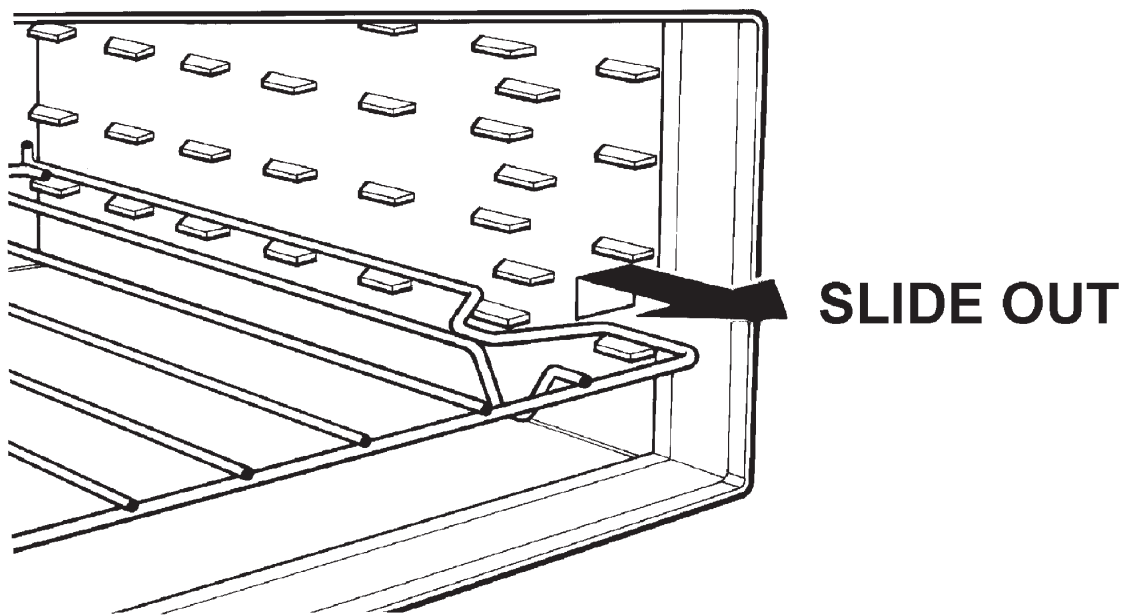

Fig. 14
- Fit the Handset on to the backplate by locating the tag on to the slot in backplate as shown (Fig. 14).